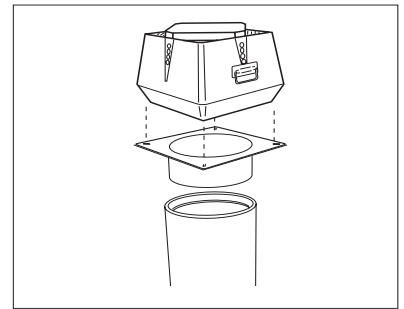

Fig. 4
- Insert the steel chimney adapter (SCA) into the chimney/stack. The long collar engagement ensures safe anchoring (see fig. 4).